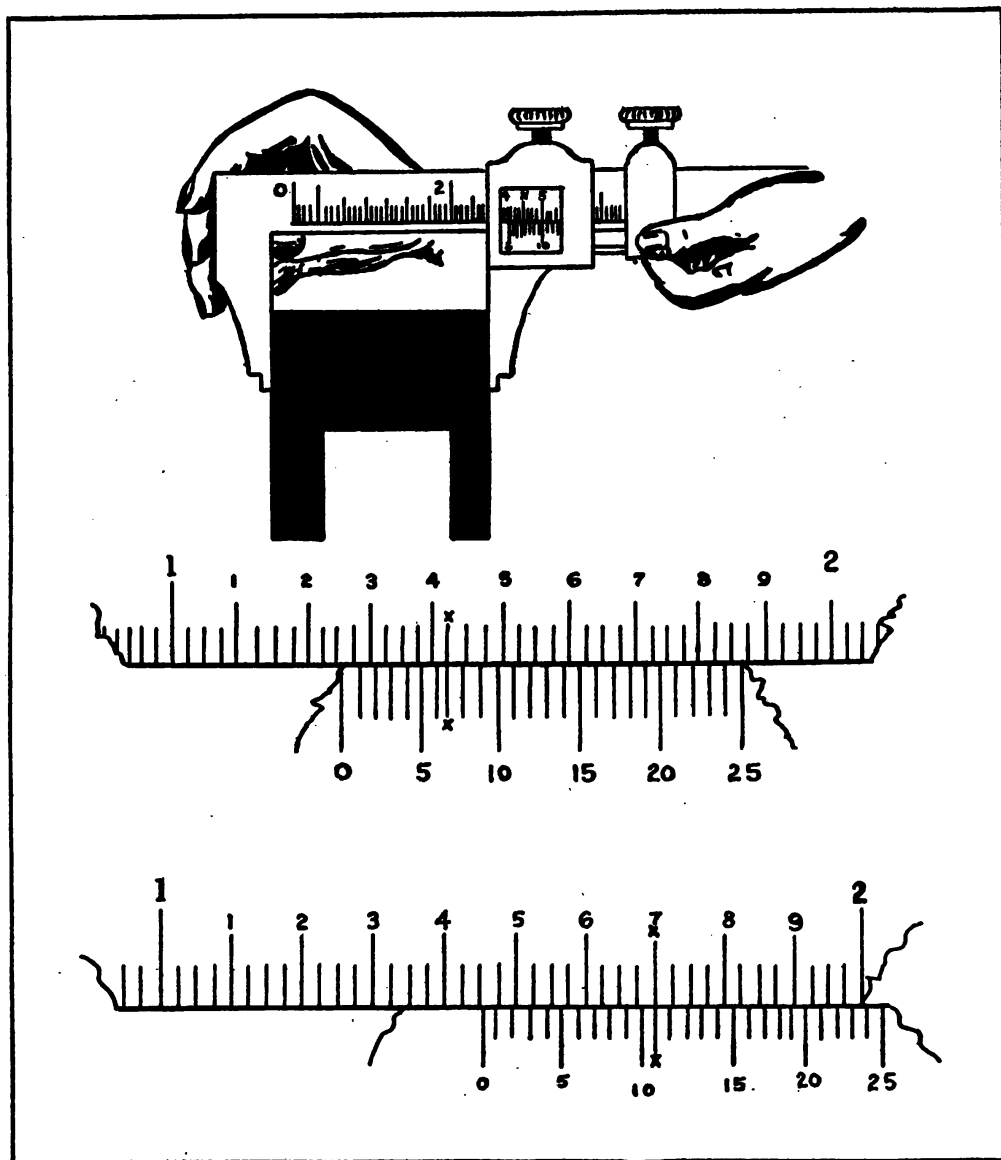

FIGURE 100.—Reading a vernier.
(1) The method of reading a vernier caliper is shown in the upper two illustrations, figure 100. In this example, the caliper has been
In this case the figure is 1.2 inches. Write it as 1.200 inches. To this, add the number of unmarked graduations on the bar between 2 and 0 on the vernier, which in this example is 2. Write it as 0.050 inch (2×0.025 inch). Then, moving the eye to the right from 0 on the vernier in the middle illustration, figure 100, find the graduation on the vernier which coincides with a graduation on the bar; in this example the figure is 7. Write it as 0.007 inch. The addition will then be as follows:
(2) Another example is the lower illustration, figure 100. Proceeding as above, first write the number of inches and tenths of inches on the bar, which in this case would be 1.400 inches. Then add the number of unmarked graduations on the bar between 4 and 0 on the vernier, which is 2, or 0.050 inch. Then, following right from 0 on the vernier, the first graduation that coincides with a mark on the bar is the eleventh. Write this as 0.011 inch. The addition is now as follows: